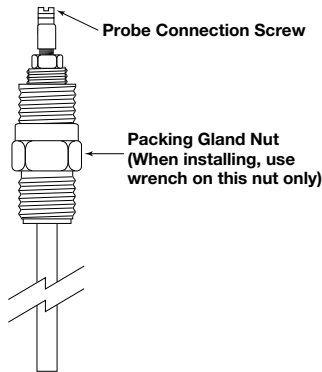
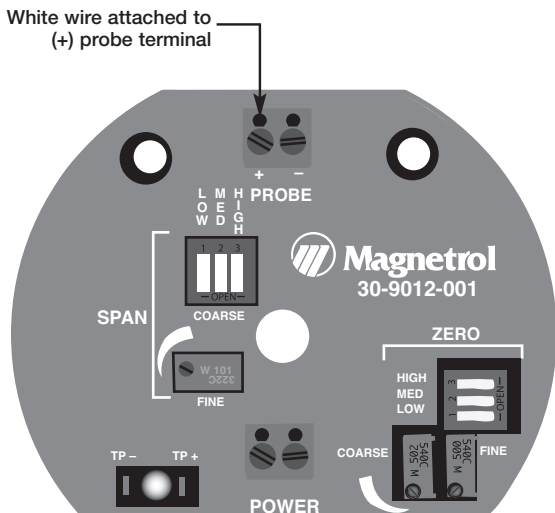
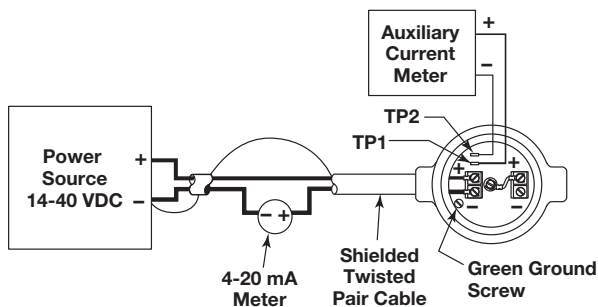

Figure 1
Figure 3
Figure 5
1. Thread the probe into the mounting connection on the vessel. Tighten securely, making sure that the wrench is applied **ONLY** to the mounting nut. Refer to Figure 1.
1. Remove the housing cover. Locate the white wire which is fastened to the (+) probe terminal. Refer to Figure 3. Connect the free end of this wire to the probe connection screw. Refer to Figure 1.
2. Install the transmitter housing using the bracket (supplied by Magnetrol). Make sure to provide adequate clearance to remove the housing cover. Refer to Figure 3.
2. Install the transmitter housing using the bracket (supplied by Magnetrol). Make sure to provide adequate clearance to remove the housing cover. Refer to Figure 3 on page 3.
3. Remove the transmitter housing cover. Connect the positive lead of the interconnection cable to the (+) probe terminal. Connect the negative lead and shield to the (-) probe terminal. Refer to Figure 3 on page 3.
2. Connect the positive supply wire to the (+) terminal and the negative supply wire to the (-) terminal. Connect the shield to the green ground screw at the base of the housing. Make the shield wire as short as possible. Refer to Figure 3 on page 3, and Figure 5.